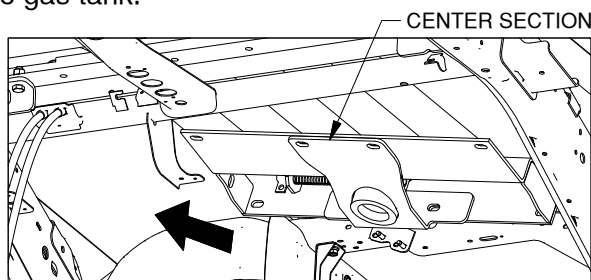

Figure D1: Looking up under truck bed. (Exhaust not shown.)
- Maneuver center section into place.** Raise the center section up between the frame on the passenger side of the truck and the exhaust pipe with the latch pin toward the driver side, as shown in Figure D1. Once it is over the exhaust, turn it flat and slide it over the gas tank.